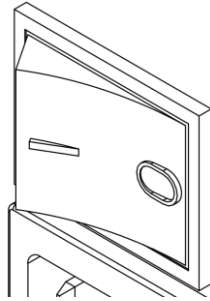

Figure 4-12 Control cabinet power switch
- Step5. After powering on, switch the switch from "O" to "I" (refer to Figure 4-12), start the control cabinet, at the same time the switch indicator lights up, and the teach pendant starts.